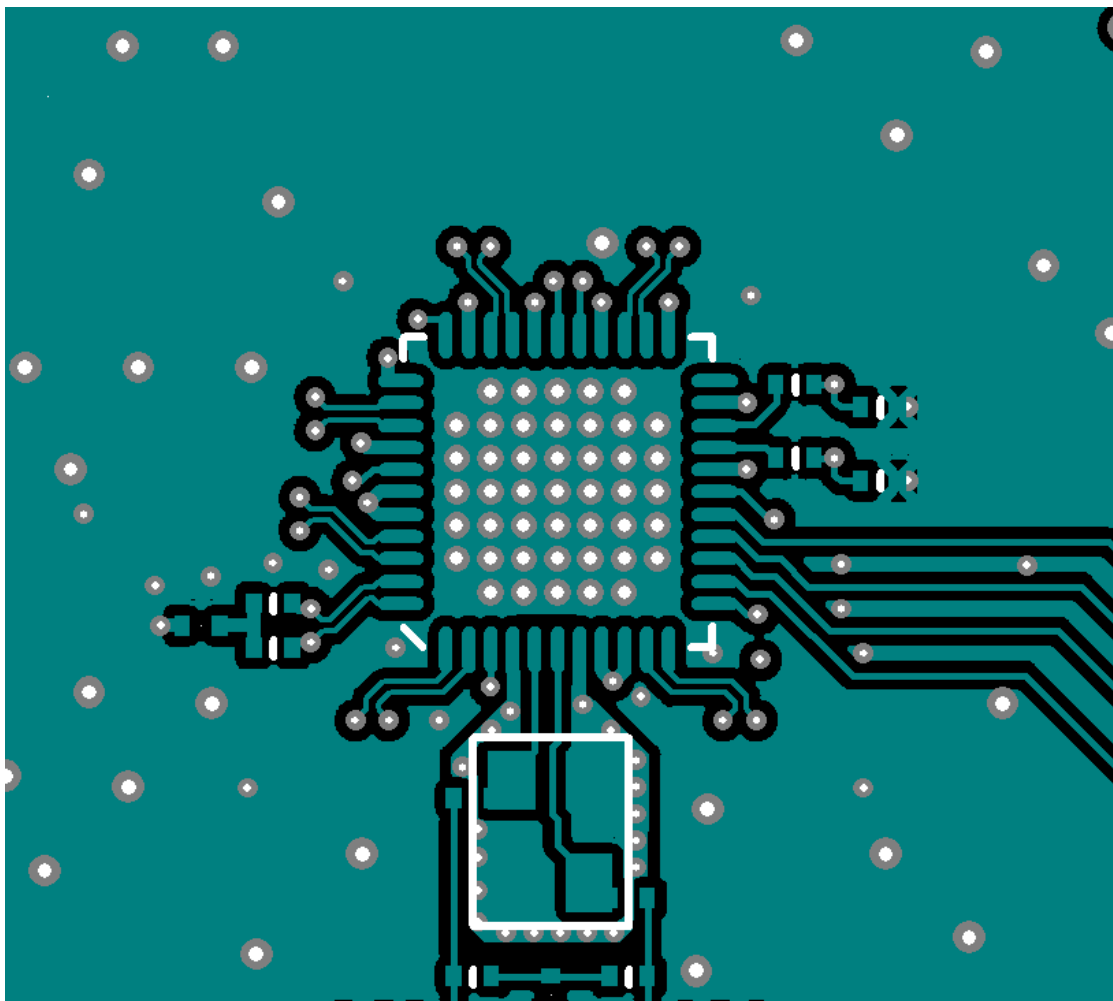
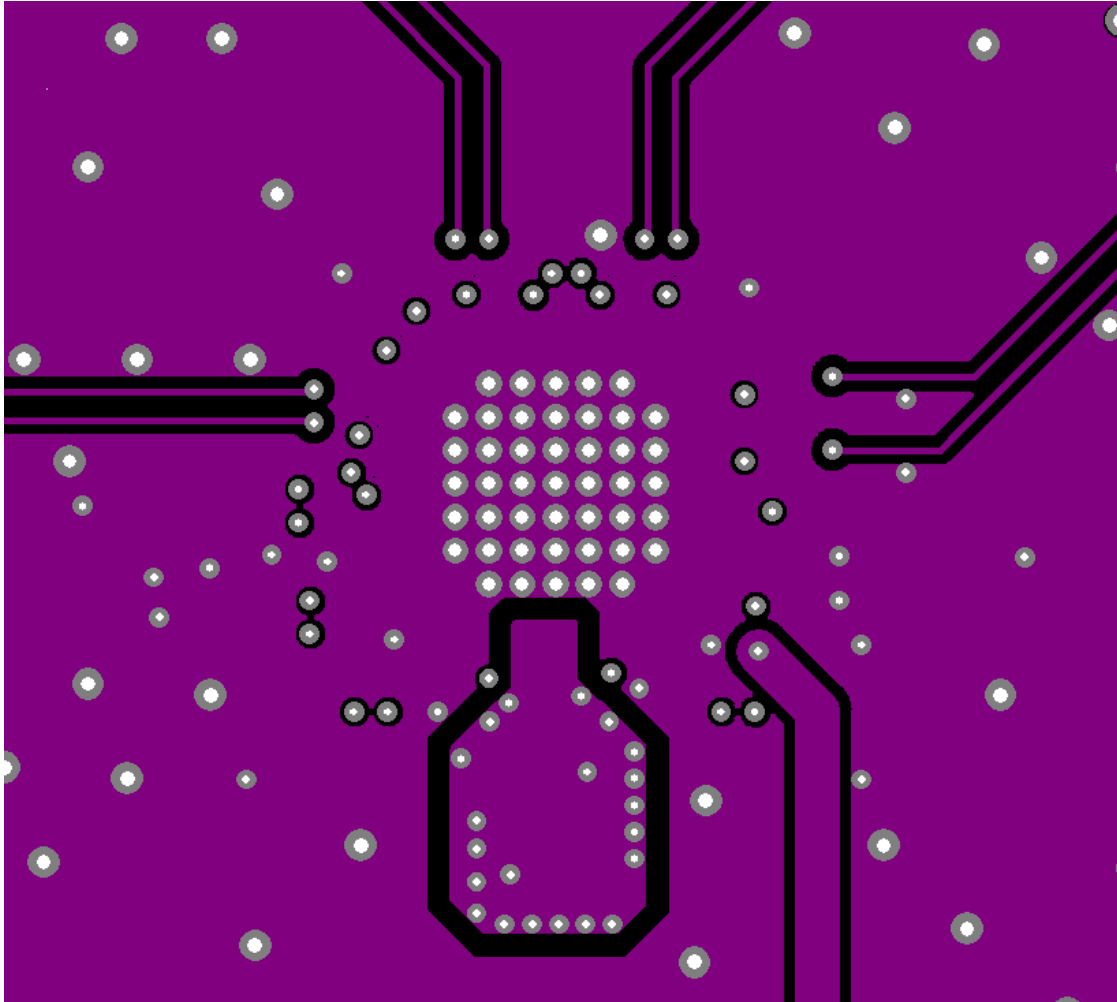

Figure 13.9. Device Layer (Layer 1)
Figure 13.10. Crystal Shield Layer 2
3. Connect the crystal's GND pins to the DUT's X1 and X2 pins via a local crystal GND shield placed around and under the crystal. See Figure 13.9 Device Layer \(Layer 1\) on page 86 at the bottom left for an illustration of how to create a crystal GND shield by placing vias connecting the top layer traces to the shield layer underneath. Note that a zoom view of the crystal shield layer on the next layer down is shown in Figure 13.10 Crystal Shield Layer 2 on page 87.
Figure 13.10 Crystal Shield Layer 2 on page 87 is the second layer. The second layer implements the shield underneath the crystal. The shield extends underneath the entire crystal and the X1 and X2 pins. There should be no less than 12 vias to connect the X1 and X2 planes on layers 1 and 2. These vias are not shown in any other figures. All traces with signals that are not static must be kept well away from the crystal and the X1 and X2 plane.